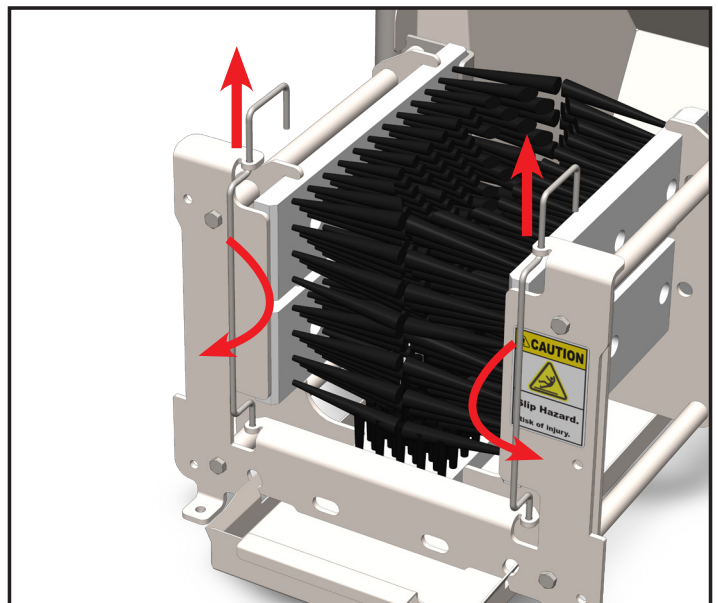

Fig. 4.3: Brush clip rotation for brush removal
2. To remove the brushes, pull up on the clip and twist them outward, as shown in [Figure 4.3].